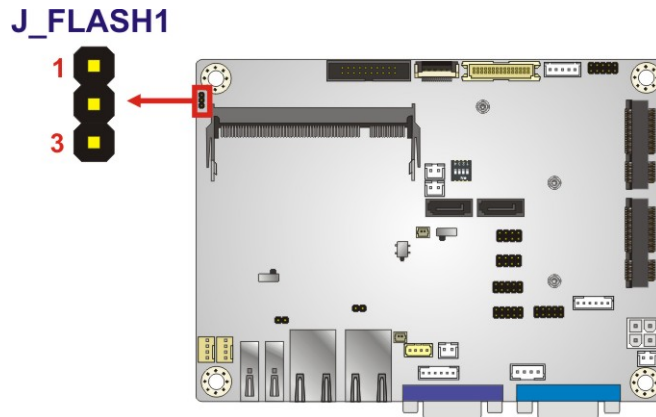

Figure 4-13: Flash Descriptor Security Override Jumper Location
- Jumper Location:** See Figure 4-13